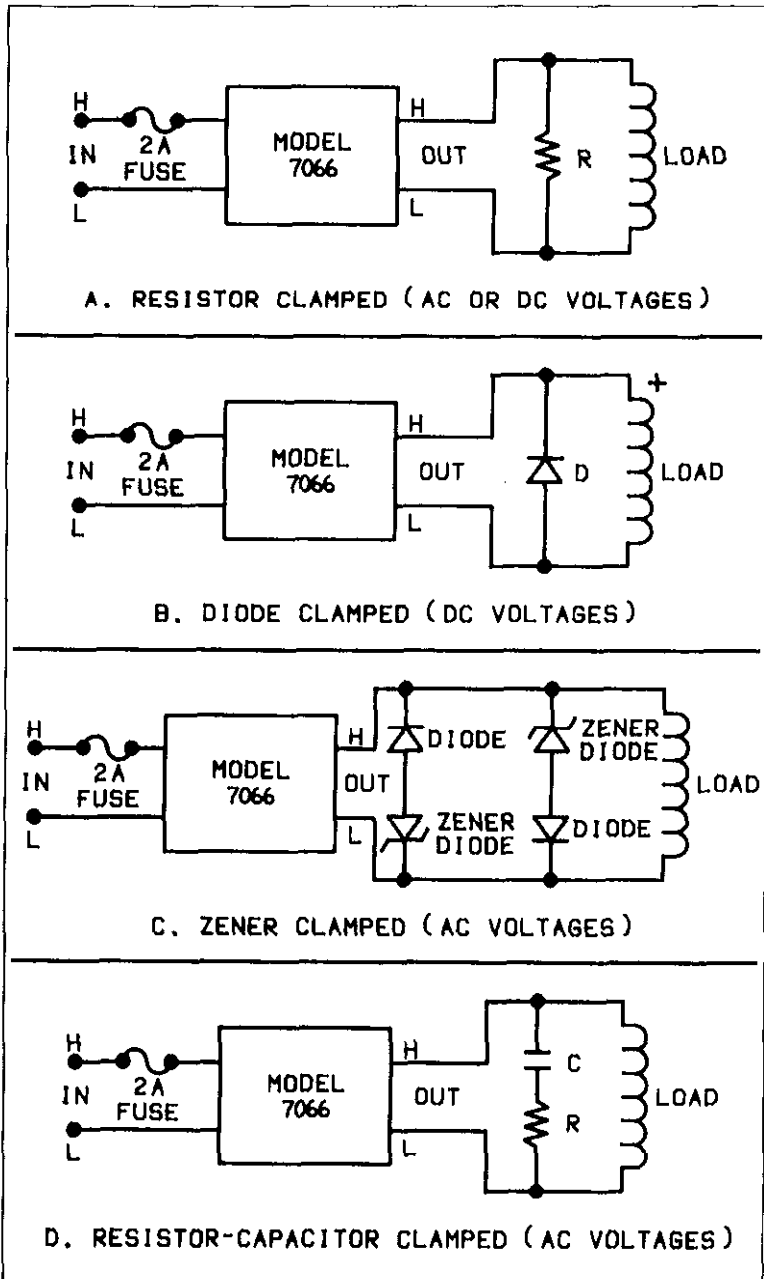

Figure 2-8. Limiting Inductive Reaction Voltage
- A. Inductive Loads—Inductive reaction voltage, $L \frac{di}{dt}$, must be limited to less than 250V in DC circuits or 350V peak in AC circuits. Also, consider the load when determining the voltage limit. Clamping circuits that can be used are shown in Figure 2-8.